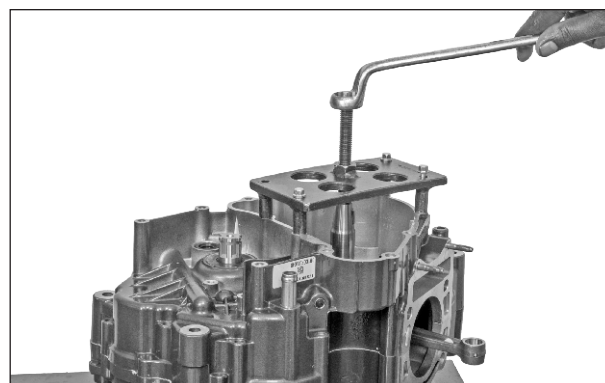

Fig. 3.141
- Using special tool, separate the crankcase assemblies by pulling the crankcase complete L. (Fig. 3.141)